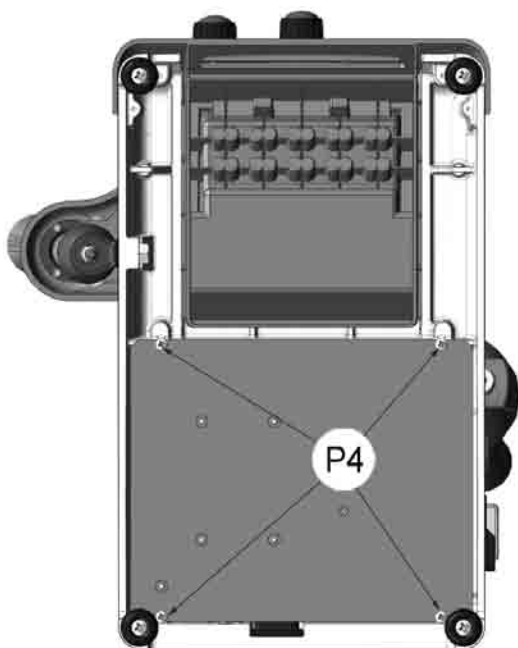

Fig. 75
- 1) Turn off switch (P) and detach the power lead.
- 2) Place the key-cutting machine on its back and loosen the 4 screws (P4) to remove the bottom safety plate (Fig. 75).
- 2) Turn the key-cutting machine on its back and loosen the 4 screws (P4) to remove the bottom safety guard (Fig. 75).
- 2) Turn the key-cutting machine onto its back and loosen the 4 screws (P4) to remove the bottom safety guard (Fig. 75).